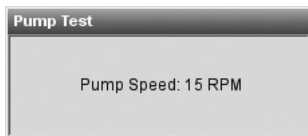

Fig. 8-28 Pump Speed
- The pump will automatically step through all the speeds used during normal operation (7.5 to 120 rpm (revolutions per minute)) (Fig. 8-28) and return to the **<Tests>** screen.